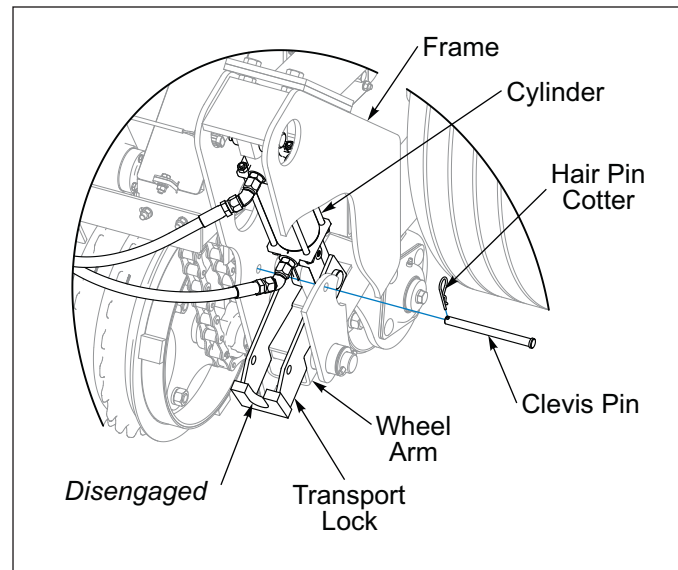

Figure 3-7: Transport Lock Disengaged
5. Disengage each Transport Lock so that the Transport Lock rests on the Wheel Arm. Insert the Clevis Pin in front of the Transport Lock. **See Figure 3-7.**
1. Raise the Seeder fully to extend the Hydraulic Lift Cylinders and rotate the Transport Locks to the stored position. Secure with the Clevis Pins and Hairpin Cotters. **See Figure 3-7.**
3. If the Transport Locks are engaged, raise the Seeder and disengage the Transport Locks. **See Figure 3-7.**